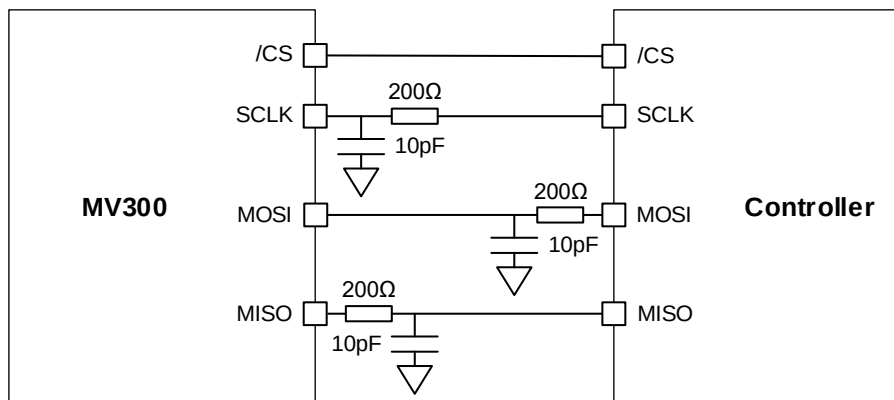

Figure 23: Examples of RC Low-Pass Filters on the SPI Signals
- Insert RC low-pass filters on the CIP0 and COPI signals (see Figure 23). The RC filter on COPI must be located close to the controller, while the filter on CIP0 must be located close to the sensor. It is recommended to use a 200 Ω resistor with a 10pF capacitor.